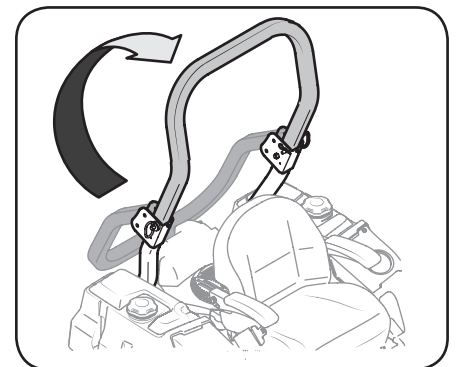

Figure 2-3
- Remove the left and right clevis pins and cotter pins securing the ROPS in position and rotate it so that they allow the ROPS to move freely. See Figure 2-3.